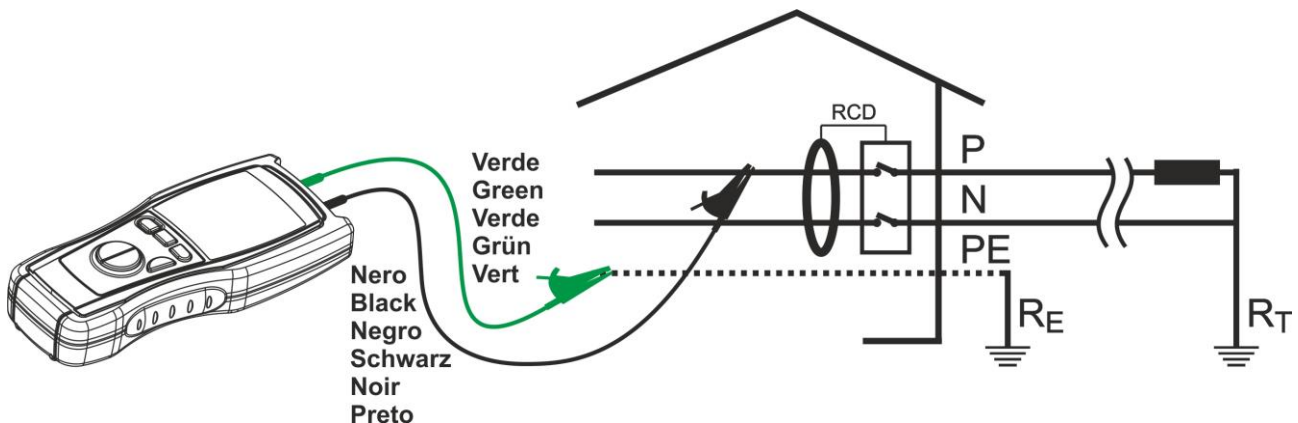

Fig. 12: Connection of the instrument's terminals during RCD test
6. Connect the green cable to the protective conductor (earth) and the black cable to the phase conductor at the lower end of the RCD under test (Fig. 12)